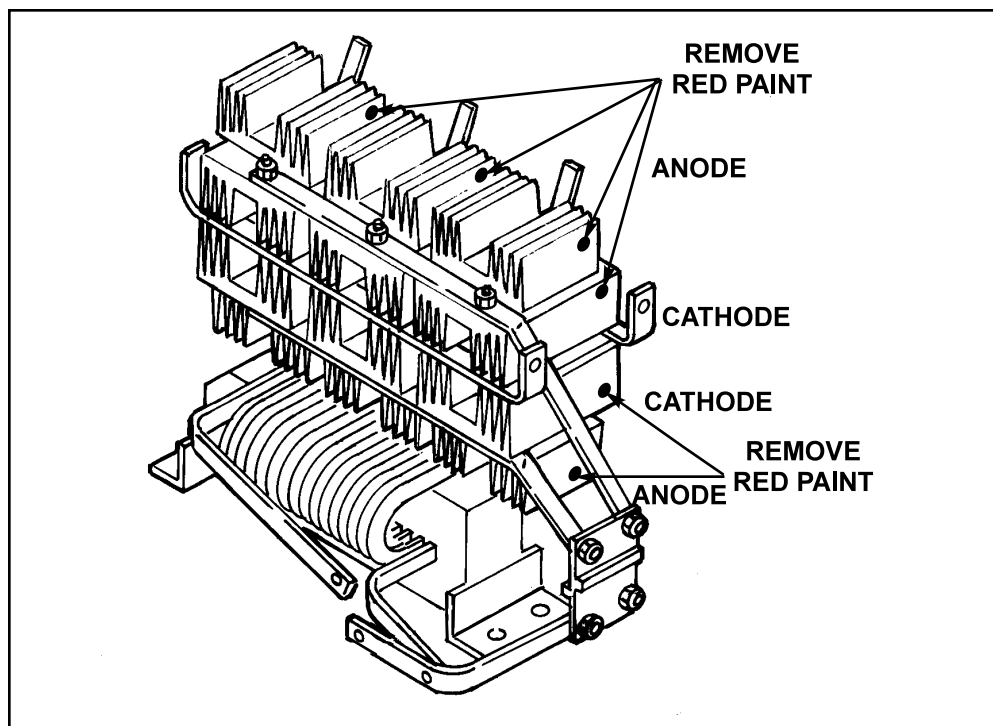

FIGURE F.16 - Heat Sink Assembly Test Points
3. Remove the red insulating paint from heat sink test points. See Figure F.16. NOTE: Do not disassemble the heat sinks.